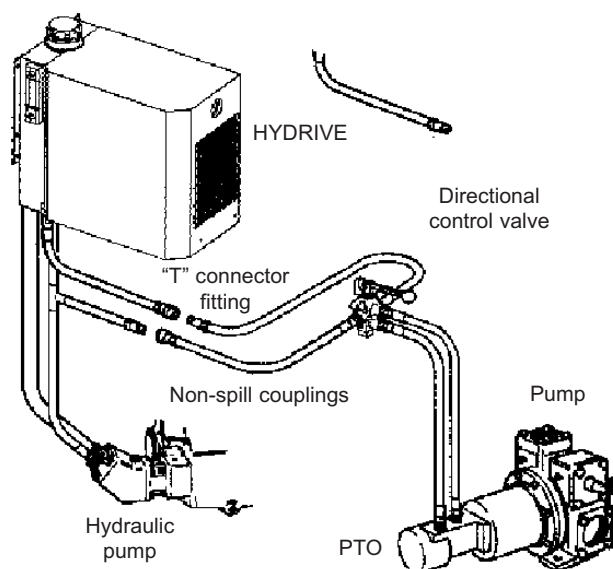

Figure 1
Figure 1 shows the hydraulic circuit for a single motor drive system (without selector valve). If driving a motor in both directions, install a directional control valve in the circuit as shown (figure1).
1. Connect a high pressure hose from outlet of the hydraulic pump to the inlet of the hydraulic motor. Insert a "T" connector into this line and connect to the fitting on the control block marked "MOTOR" (see Figure 1).